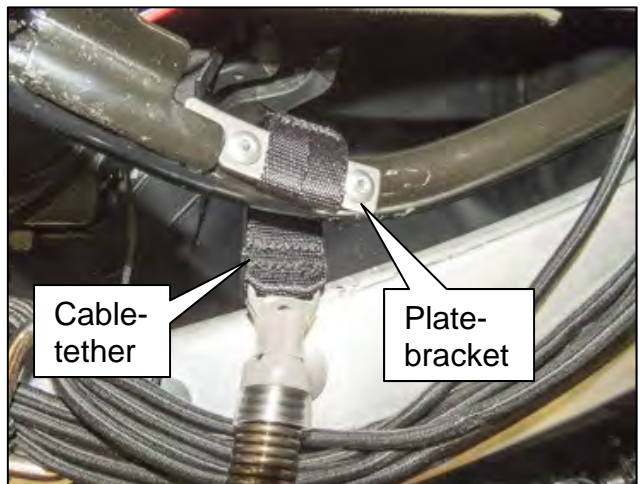

Figure 31
34. Attach the plate-bracket/cable-tether assembly to the 5th Bow linkage with two (2) pop rivets, as shown in Figure 31.
35. Temporarily route the cable-tether (Figure 31).